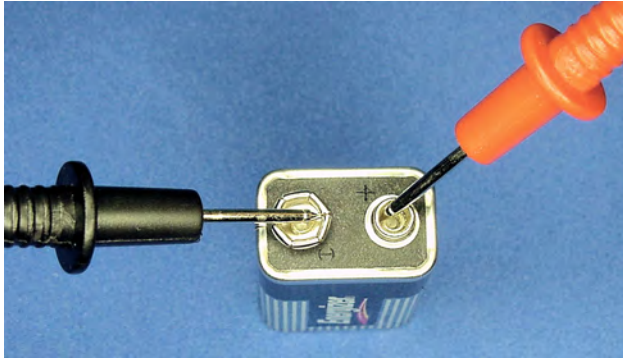

Figure 7-5. Probe tips touching battery terminals
6. Touch the metal tip of the red test lead to the battery's positive terminal (the smaller snap, which is usually marked "+"). See Figure 7-5.